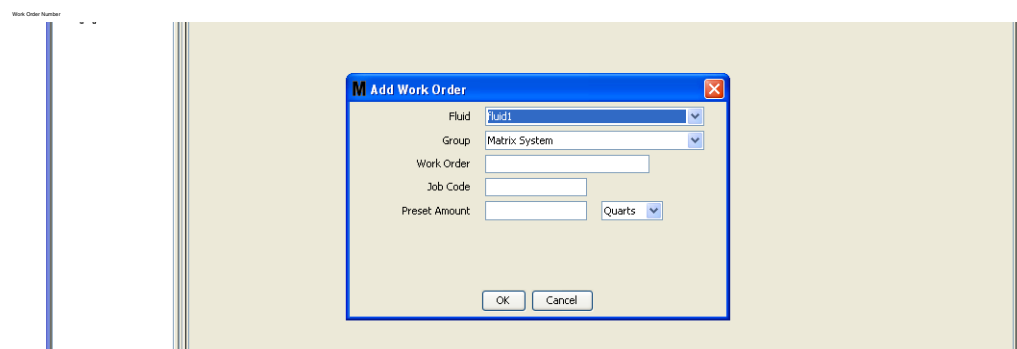

FIG. 116
- The Add Work Order popup screen is shown in FIG. 116.